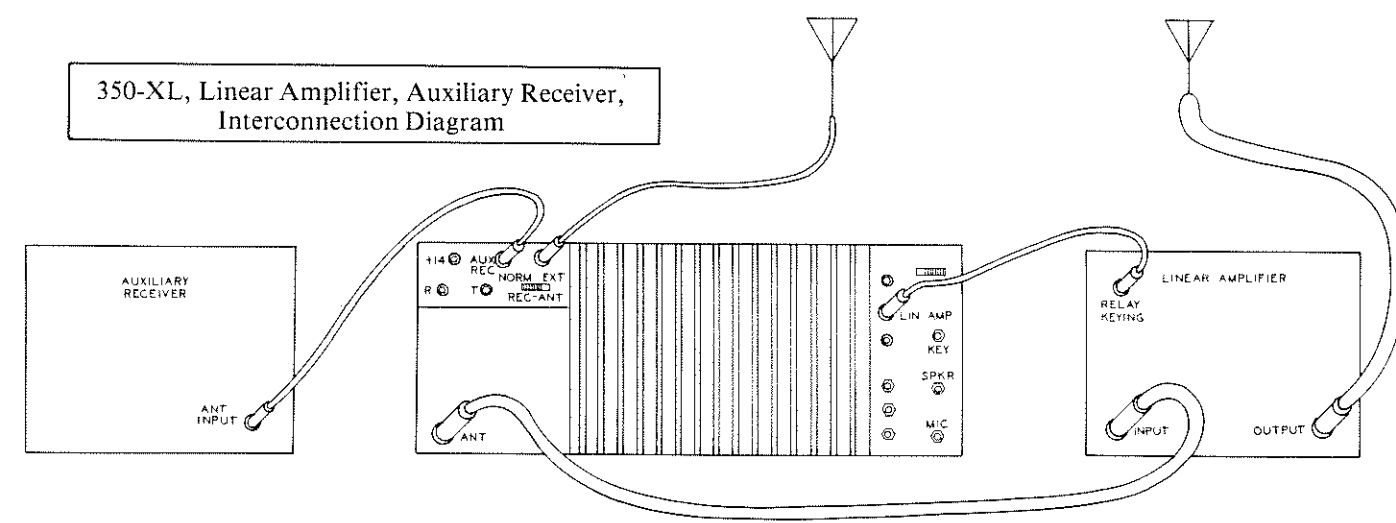

FIG. 3-5
33. **LIN. AMP:** Tip jack allows for Linear Amplifier TX/RX relay control. Later models have a phono-jack instead of a tip jack. Figure 3.5 shows typical connections between transceiver and amplifier. The 350-XL is designed for full-break-in CW and works quite well when the transceiver is used for "barefoot" operation. However, most linear amplifiers on the market today will operate only semi-break-in. It will be necessary to switch the VOX/PTT control to VOX and adjust the DELAY control for desired settings. (See CW Operation.)
36. **AUX REC:** The Auxiliary Receiver phono jack permits the use of another receiver connected to the same antenna as the 350-XL receiver. Figure 3.5 shows connections for use of Auxiliary Rec.